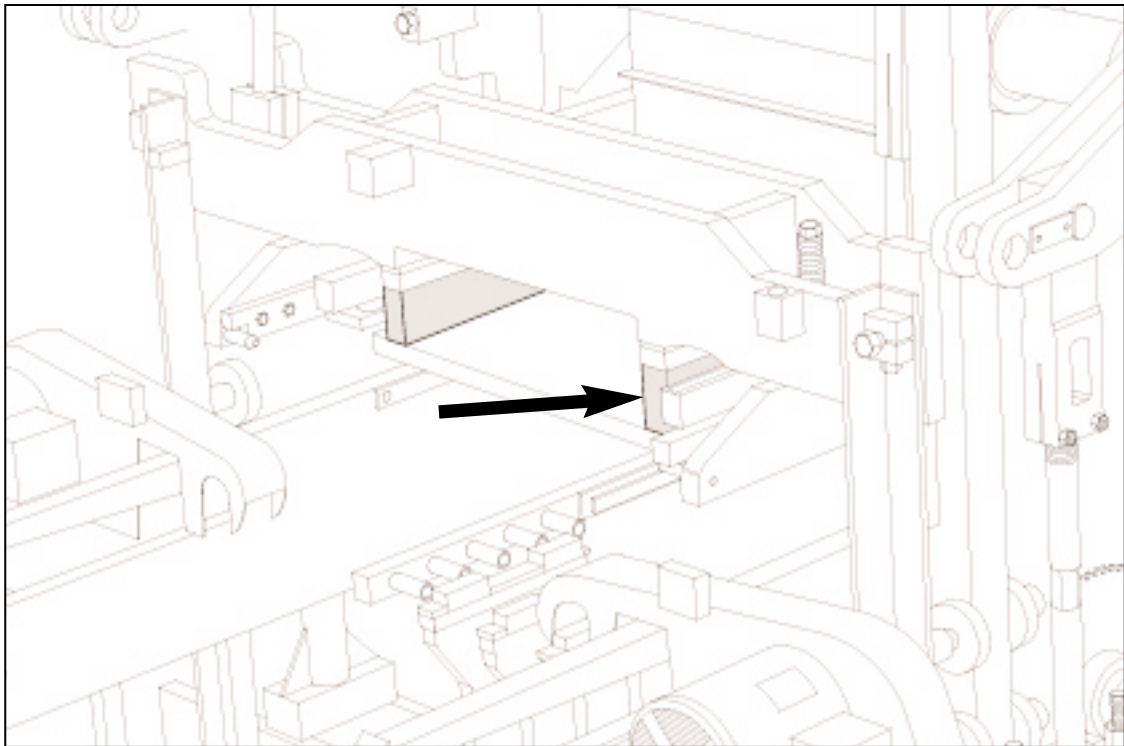

Figure 4.16 4 3/8" [111mm] BLOCKING UNDER STRIPPER HEAD FRAME.
4.1.9 The SUPERPAC is now ready for the installation of the mold assembly. Follow the directions for installing an attachment in section 5 of this manual. When installing the stripper head, insert **4 3/8" [111mm]** of blocking in addition to the **1 1/2" [38mm]** blocks already affixed to the stripper head frame (figure 4.16). The above blocking assumes a stripper head height of **14 3/16" [360 mm]** from the top of the head plate to the bottom of the shoes.